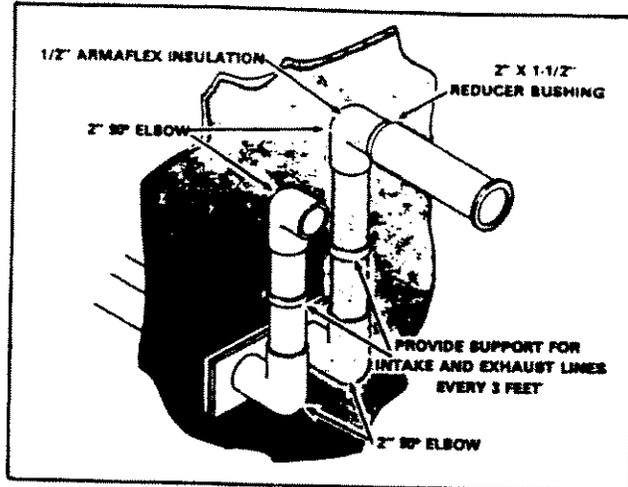

FIGURE 20
- 3 - Exhaust piping must terminate straight out or up as shown. On roof terminations, the intake piping should terminate straight down using two 90° elbows (See figure 18). In rooftop applications, a 2" X 1-1/2" reducer must be used on the exhaust piping at the point it exits the structure to improve the velocity of exhaust away from the intake piping. If intake and exhaust piping must be run up a side wall to position above snow accumulation or other obstructions, refer to figure 20 for proper piping method. Piping must be supported every 3 ft. as shown (See figure 20). When exhaust and intake piping must be run up an outside wall, the exhaust piping is reduced to 1-1/2 inches after the final elbow.